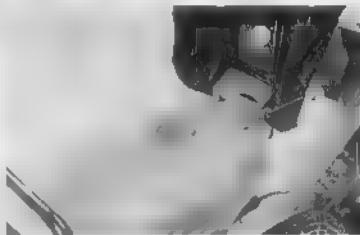

Fig. 4.53 Removing seat hinge pin
2. Remove the seat by pulling up and back toward the rear (Fig. 4.53)
Release the seat ① and detach the seat at the hinge by removing the seat hinge pin ② (Fig. 4.53)